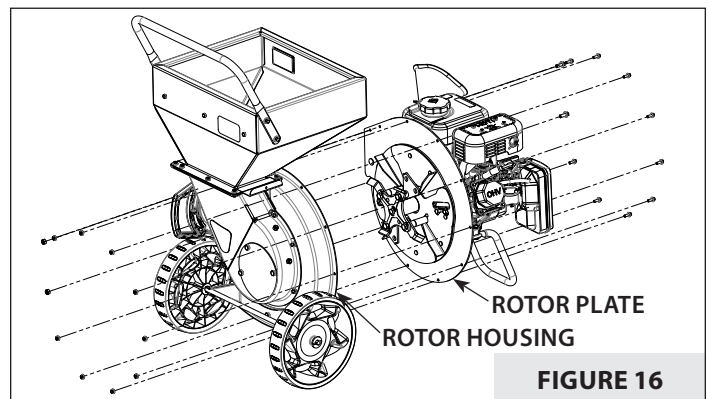

FIGURE 16
3. Detach the rotor housing and hopper from the rotor plate. **SEE FIGURE 16.**
4. Reinstall rotor housing and hopper. **SEE FIGURE 16.**